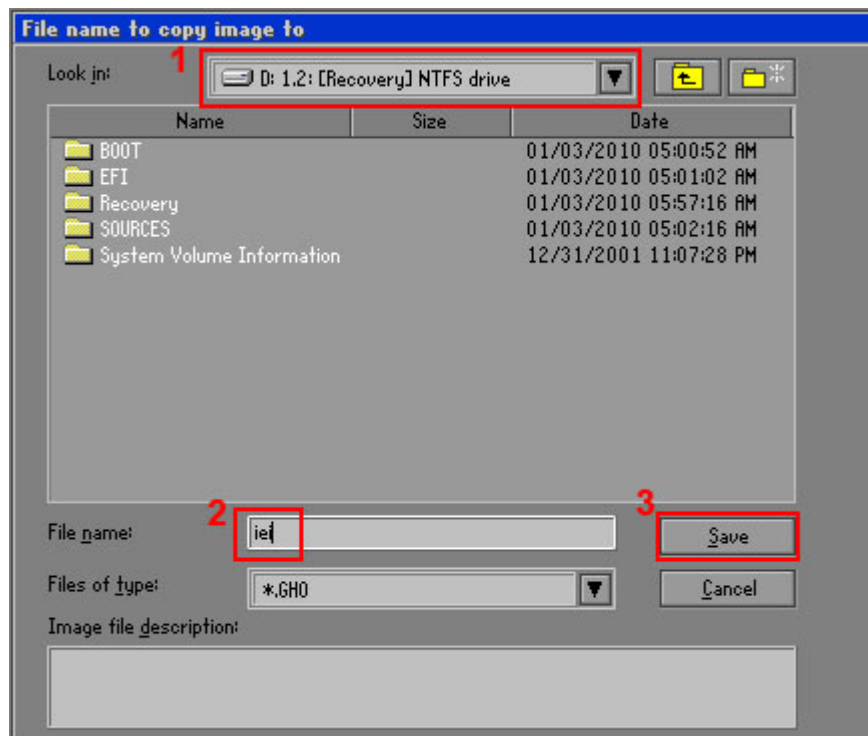

Figure B-16: File Name to Copy Image to
Step 7: Select **1.2: [Recovery] NTFS drive** and enter a file name called **iei** (Figure B-16). Click **Save**. The factory default image will then be saved in the selected recovery drive and named IEI.GHO.